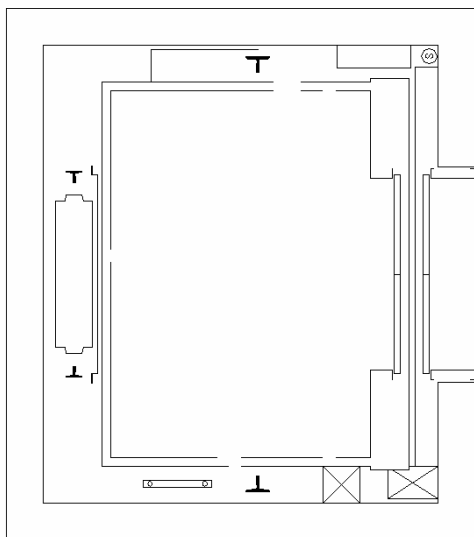

Figure 3-3.6 Elevator drawing
13. Click on all the text, dimensions and centerlines until the drawing looks like Figure 3-3.6.